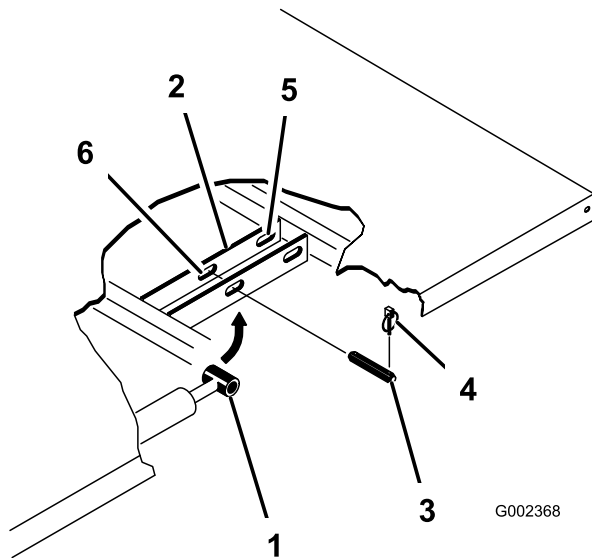

Figure 4
2. Remove lynch pins from outer ends of cylinder rod clevis pins (Figure 4).